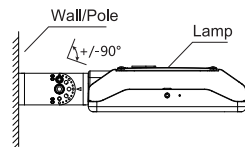

Figure 15
Step 3: Fix the fixture to the bracket and tighten the screws; connect the wires properly and put them into junction box (Figure 15).
Notice: Adjustable angle is 0~+/-90°(Figure 15)